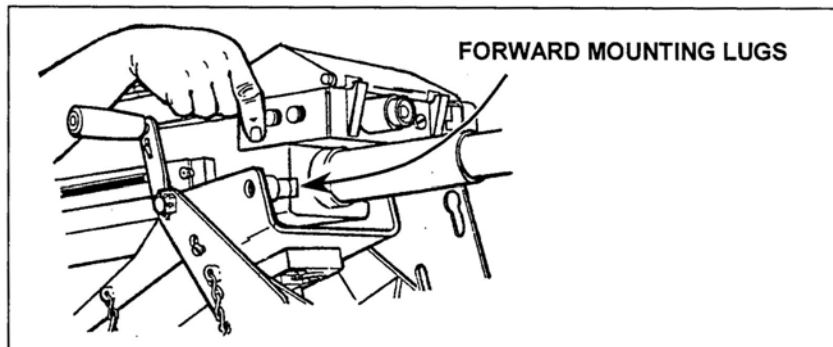

Figure 7. Front Mounting Lug
- a. Lower the gun into the mount. Slide the gun's front grooves onto the mounting lugs (Figure 7).